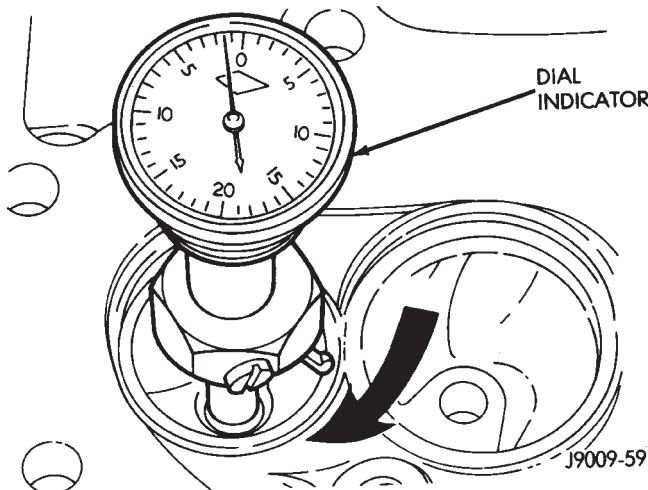

Fig. 65 Measurement of Valve Seat Runout
(2) Use tapered stones to obtain the specified seat width when required.
(3) Control valve seat runout to a maximum of 0.0635 mm (0.0025 in.) (Fig. 65).